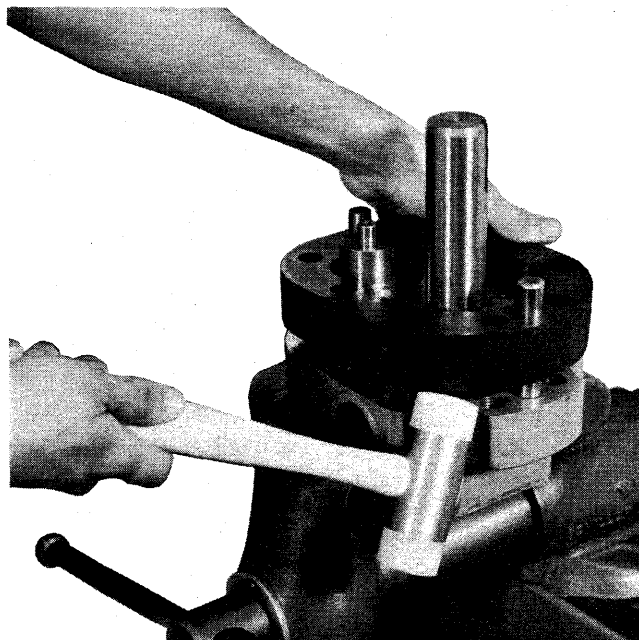

FIGURE 3
4.) Removal of the displacement housing, (Fig. 3) the dark center portion of the assembly, is carried out similar to step 3. There are two scallops in the rear end cap. It is this area that you tap to remove the housing. (Fig. 3.) Do not ever use any screwdriver or pinch bar to remove this part. It is extremely easy to damage the end cap faces. The dowel pins will remain in the displacement housing. Unless you are replacing the housing, leave them intact. The dowels are a press fit.